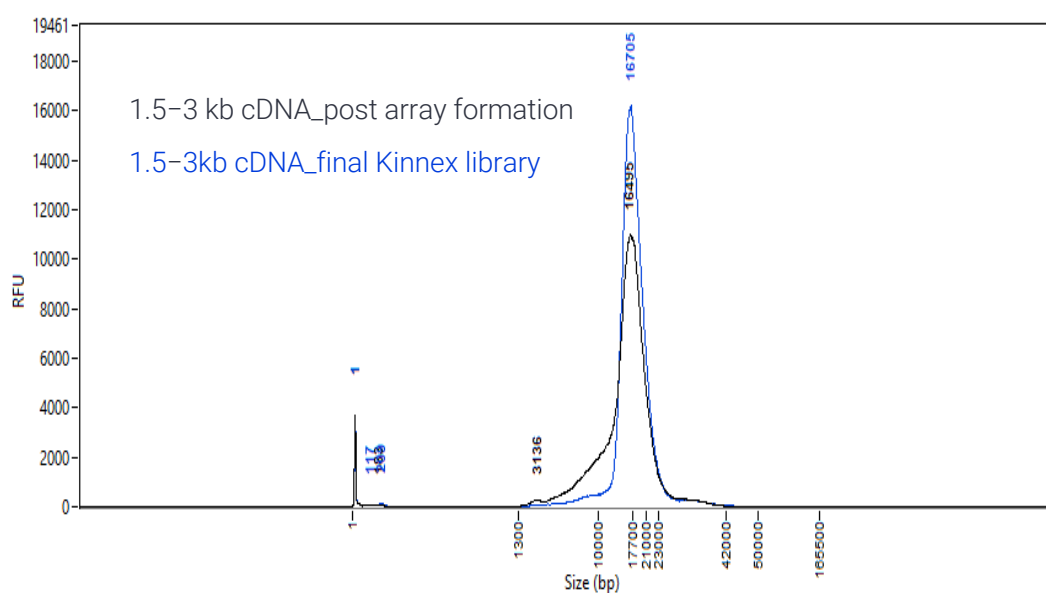

Figure 1. 8-fold array and final library quality control on FEMTO Pulse
- Recommended: Further dilute each aliquot to 250 pg/ μL with the Femto Pulse dilution buffer. Check the final Kinnex library size distribution with a Femto Pulse system (see Figure 1 in the Appendix for an example).
An example of an ideal array profile before nuclease treatment is provided in **Figure 1 of the Appendix**.